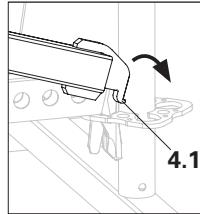

Fig. A1.11a
- Attach hook without slider (**4.1**) to the rosette and push down. (Fig. A1.11a + A1.11b)